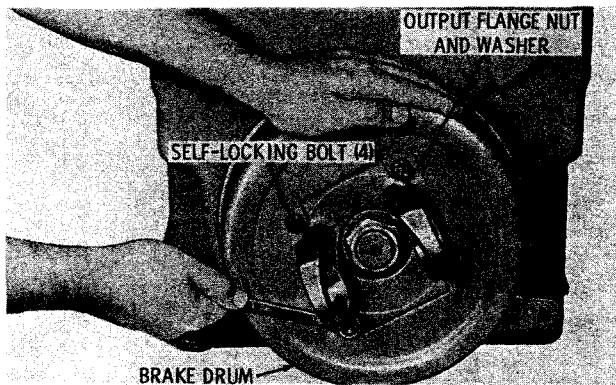

Fig. 5-3. Removing parking brake drum
(1) Remove the four self-locking bolts that retain the parking brake drum (fig. 5-3). Remove the drum.